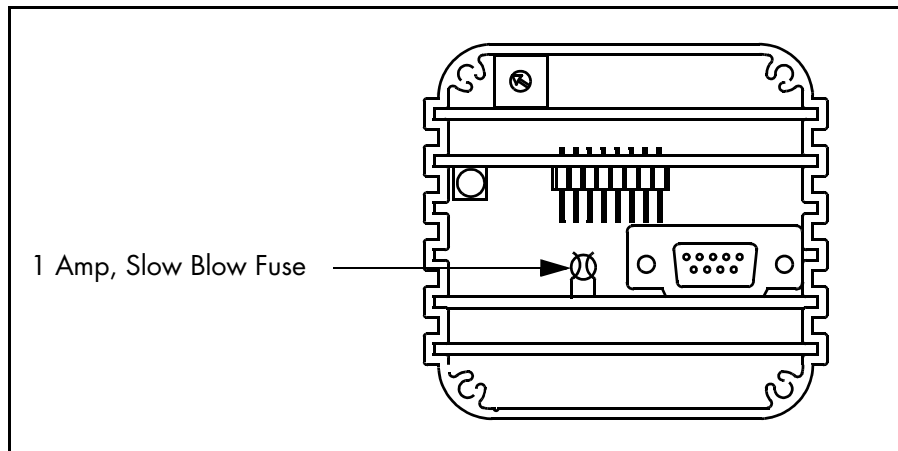

Figure 4-3 Position of 1 Amp, Slow Blow Fuse.
5. Locate the defective fuse as shown in Figure 4-3 and replace it with a new 1 amp, slow blow fuse.